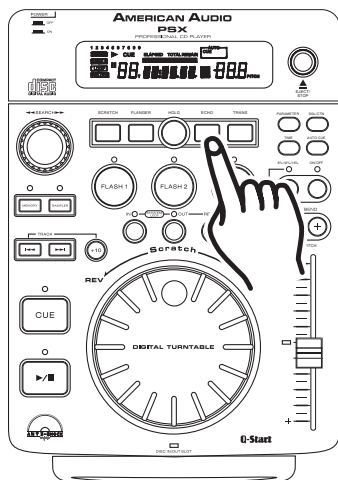

Figure 49
Most the effects have adjustable parameters. The parameters change the way the effect will react. To enter the parameters menu for any of the effects, press the *PARAMETER BUTTON* (28) as in figure 49. When the parameter mode is selected the time display in the LCD (1) will change to indicate the parameters. Some effects have more adjustable parameter than others. Pressing the *PARAMETER BUTTON* (28) more than once will advance you to the next parameter adjustment, if there are no other adjustable parameters pressing the *PARAMETER BUTTON* (28) will exit the parameters menu and return the LCD (1) to the time display.